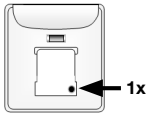

Fig. 26
A. Press and release the program button on the back side of the secondary control once (one tap). The LED will flash green. (Fig. 26)